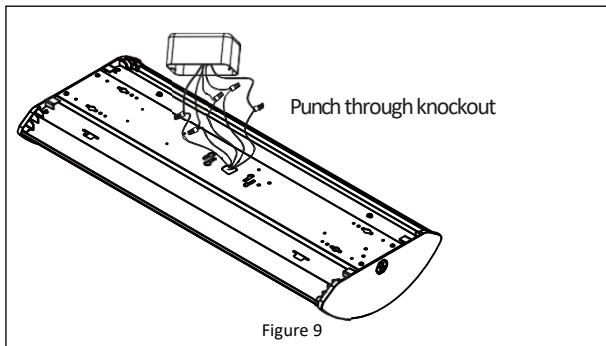

Figure 9
6. Punch through the center knockout and pull the black white and green wires through. *See Figure 9.*
Note: Wiring connections can be made inside the fixture or inside of the junction box (shown in Figure 9).